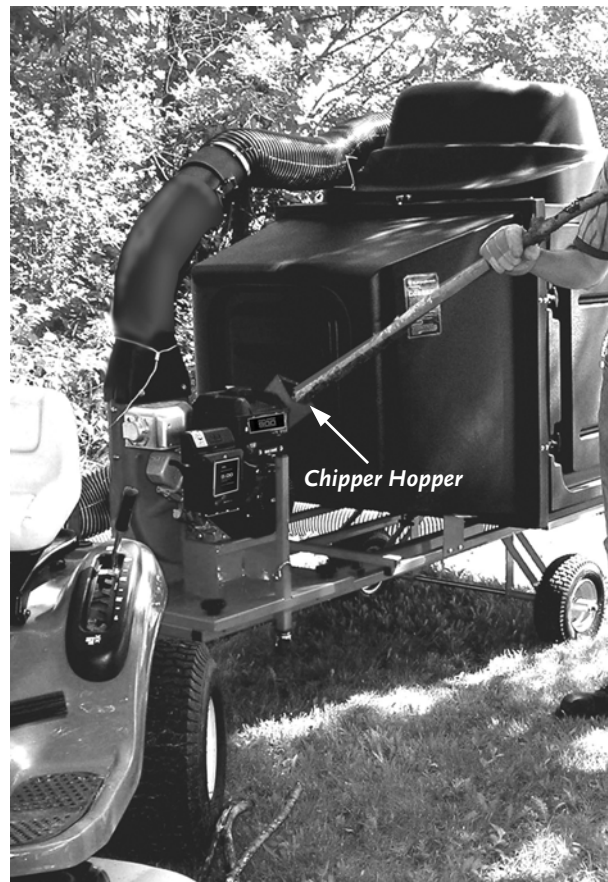

Figure 32
2. To process branches; feed them into the Chipper Hopper opening (**Figure 32**).